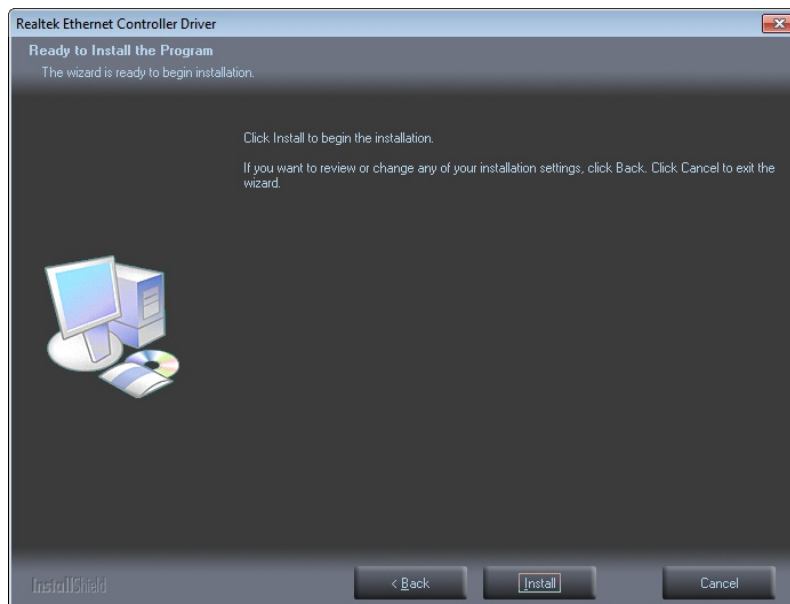

Figure 6-14: LAN Driver Installation
Step 6: The **Ready to Install** screen in **Figure 6-14** appears.